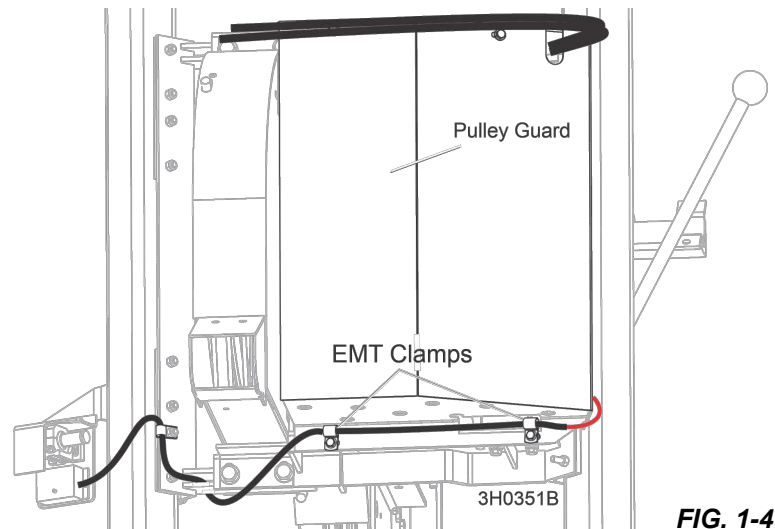

FIG. 1-4
9. Make sure the wire routes inside the guard at the lower right hand corner. **See Figure 1-4**